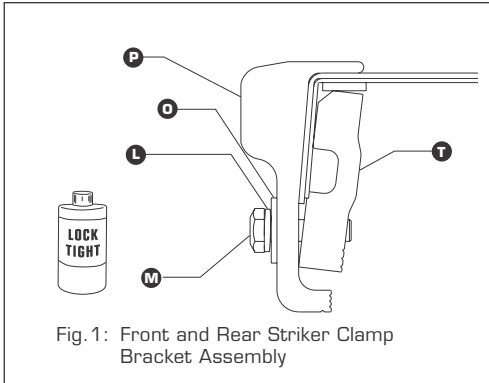

Fig. 1: Front and Rear Striker Clamp Bracket Assembly
Apply the adhesion promoter (U) to both panels as shown in fig. 1. Allow the adhesion promoter to dry to the touch before starting the blade seal installation.